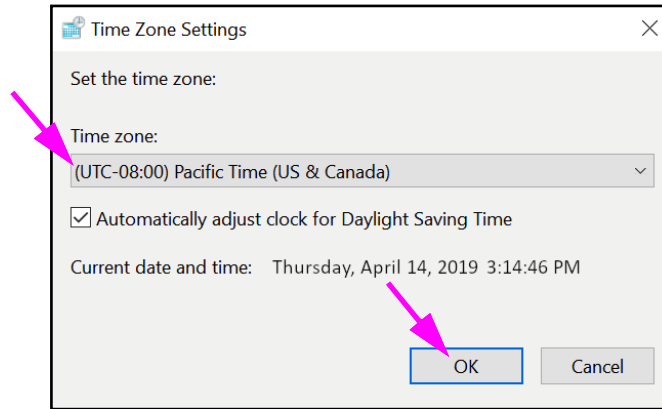

Figure 2-23. Time Zone Settings Dialog Box
1. Click **Control Panel > Date and Time**. The Date and Time dialog box appears. See Figure 2-23.
4. Click **OK** to return to the Date and Time dialog box. See Figure 2-23.